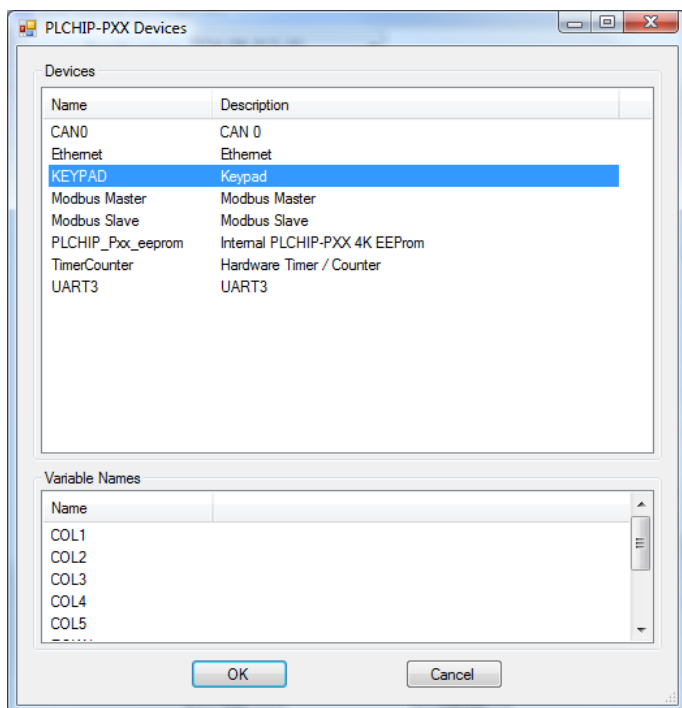

Figure 2-32 - PLCHIP-PXX Devices - KEYPAD
4. Click the **KEYPAD** device (highlight) and click **OK**. Refer to Figure 2-32.